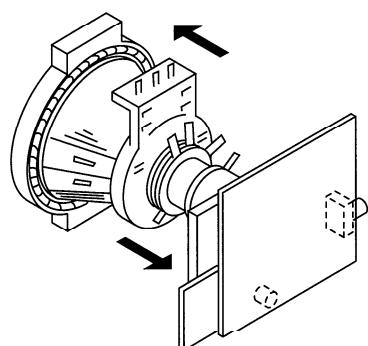

Fig. 4-2
- Move the deflection yoke to the rear and adjust with the purity control so that the green is at the center and the blue and the red take up equally sized areas on each side. (See Figures 4-2 through 4-4.)
- Move the deflection yoke forward and adjust so that the entire screen is green. (See Figure 4-2.)